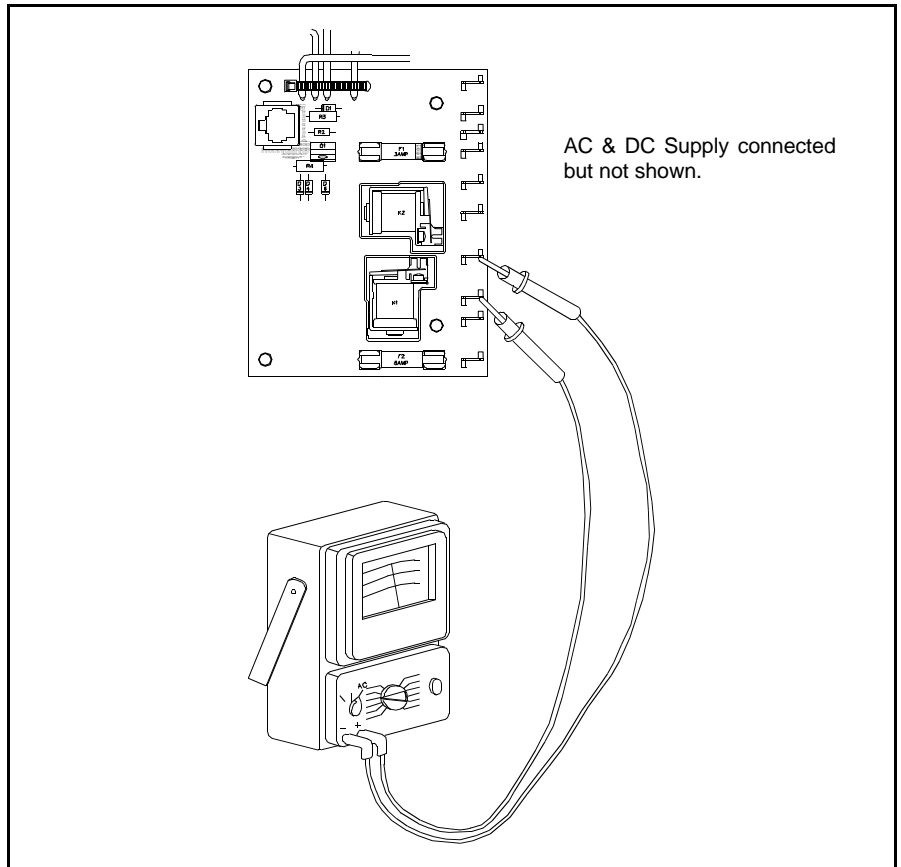

Figure 5.51 120 Volt Output Check
23. Check for 120 volts AC on terminals J-7 and J-8 of the Power Supply as shown by Figure 5.51. If you do not measure 120 volts, replace the Power Supply.